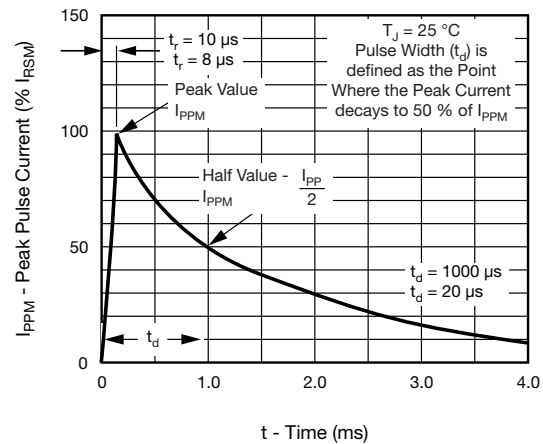
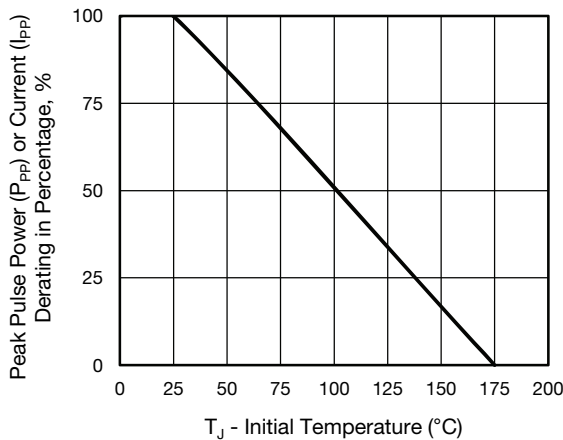

Fig. 3 - Pulse Waveform
Fig. 2 - Pulse Power or Current vs. Initial Junction Temperature
(1) Non-repetitive current pulse, per fig. 3 and derated above  $T_A = 25$  °C per fig. 2.
(2) Power dissipation mounted on infinite heatsink
(3) Power dissipation mounted on minimum recommended pad layout